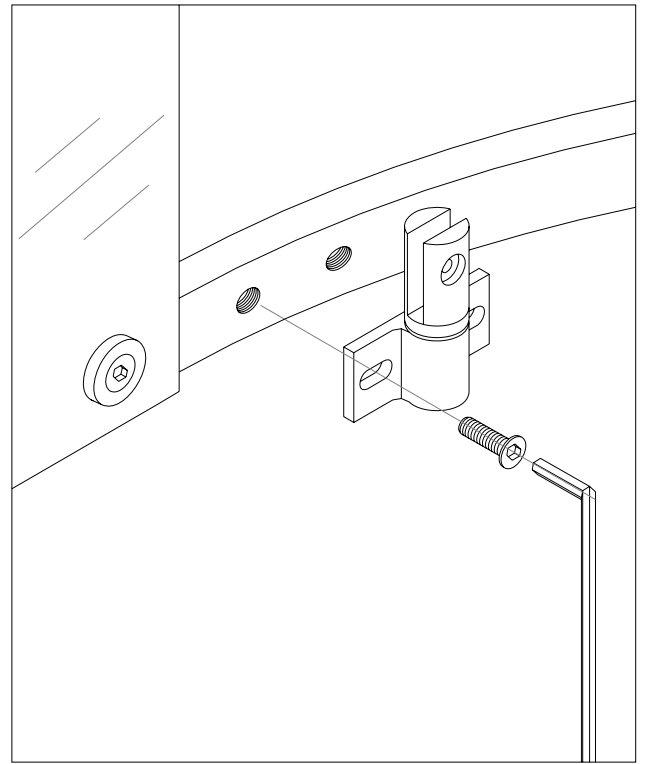

Fig 5
6. Locate two **pivot assemblies (5)**. Fasten them to the pivot bar using **M8x12 Round head bolts (17)** (Fig 5).